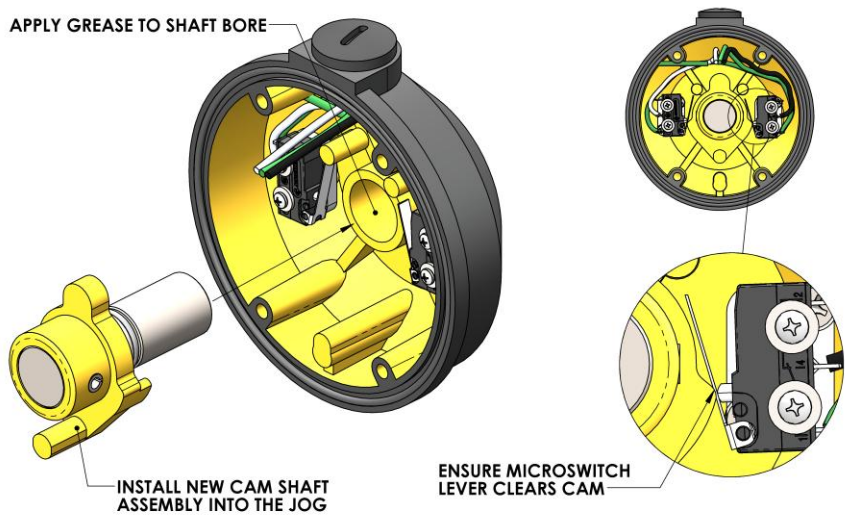

Figure 22: Installing new cam assembly back into jog housing.
16. Slide the new cam shaft assembly into the jog housing. Ensure the microswitch levers are pushed back and clear the cam when installing as shown in Figure 22.